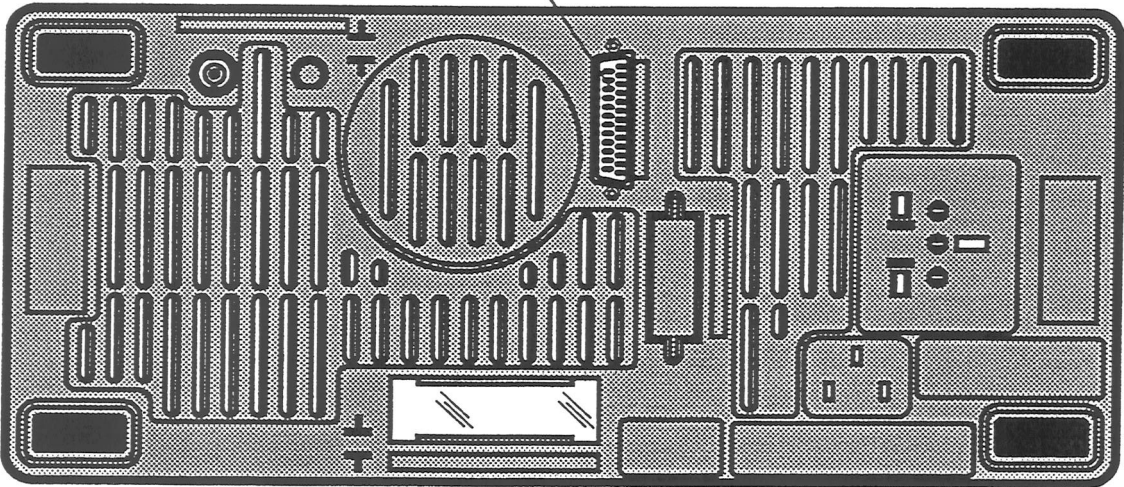

figure 19
- Snap through the bits holding the knock-out panel in place (figure 19) on the rear panel of the oscilloscope.